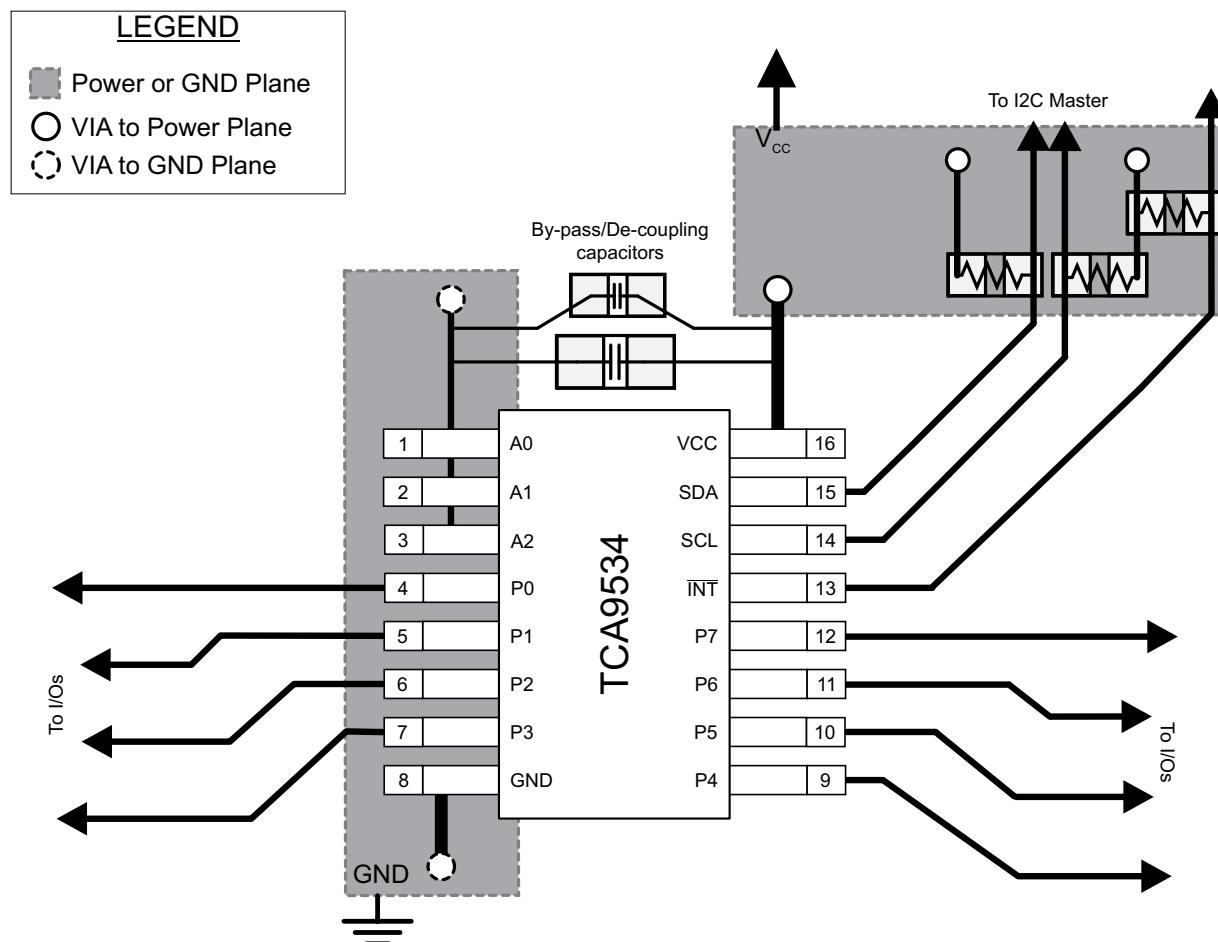

Figure 41. TCA9534 Layout
In all PCB layouts, it is a best practice to avoid right angles in signal traces, to fan out signal traces away from each other upon leaving the vicinity of an integrated circuit (IC), and to use thicker trace widths to carry higher amounts of current that commonly pass through power and ground traces. By-pass and de-coupling capacitors are commonly used to control the voltage on the V_{CC} pin, using a larger capacitor to provide additional power in the event of a short power supply glitch and a smaller capacitor to filter out high-frequency ripple. These capacitors must be placed as close to the TCA9534 as possible. These best practices are shown in Figure 41.
For the layout example provided in Figure 41, it must be possible to fabricate a PCB with only 2 layers by using the top layer for signal routing and the bottom layer as a split plane for power (V_{CC}) and ground (GND). However, a 4-layer board is preferable for boards with higher density signal routing. On a 4-layer PCB, it is common to route signals on the top and bottom layer, dedicate one internal layer to a ground plane, and dedicate the other internal layer to a power plane. In a board layout using planes or split planes for power and ground, vias are placed directly next to the surface mount component pad which needs to attach to V_{CC} or GND and the via is connected electrically to the internal layer or the other side of the board. Vias are also used when a signal trace needs to be routed to the opposite side of the board, but this technique is not demonstrated in Figure 41.